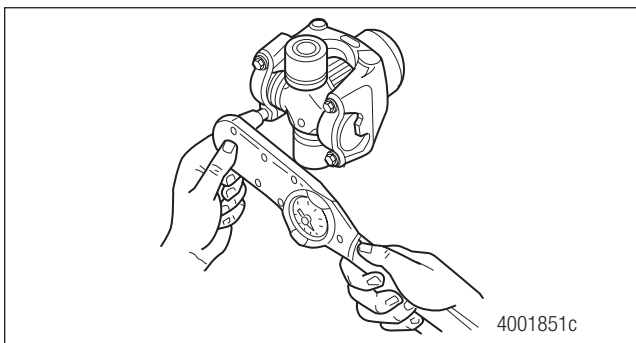

Figure 5.24
4. Use a torque wrench to alternately tighten the capscrews to Meritor's driveline torque specification. Figure 5.24.